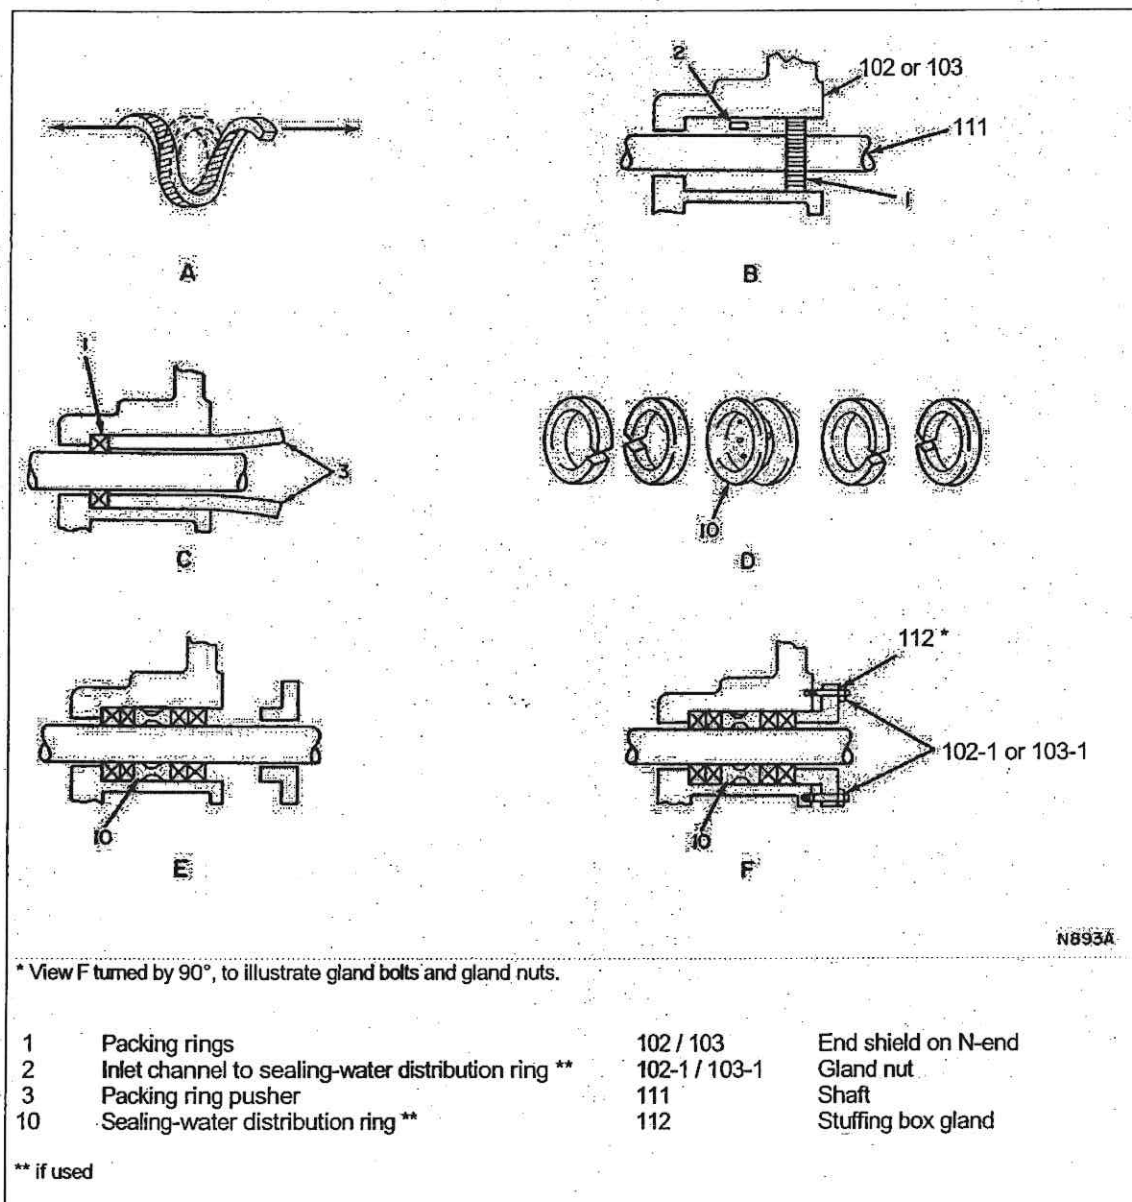

Fig. 17: Stuffing box packings
- Produce two hard rubber strips which are fit between outside diameter of shaft and inside diameter of stuffing box and used as packing ring pushers. See Fig. 17 C, pg. 49.
- Open packing spirally by pulling ends apart in axial direction, as shown in Fig. 17 A, pg. 49.
- Lay each packing ring around shaft and lay in stuffing box, as shown Fig. 17 B, pg. 49.
- Push first packing ring into stuffing box as firmly as possible with pusher produced as described above. Make sure that packing ring is fit into face of stuffing box, as shown in Fig. 17 C, pg. 49. As soon as another packing ring is laid in, move joint gap of ring so that joint gap of following rings is offset by 180 degrees. See Fig. 17 D, pg. 49. Make sure that each packing ring is firmly fitted.
- Lay in sealing-water distribution ring (10) if it was included.
- Install two halves of stuffing box gland on shaft and connect with two nuts, washers and bolts. Push stuffing box gland onto gland bolts so that it is flush with last packing ring laid in. Screw on gland nuts and tighten evenly by hand. See Fig. 17 F, pg. 49.